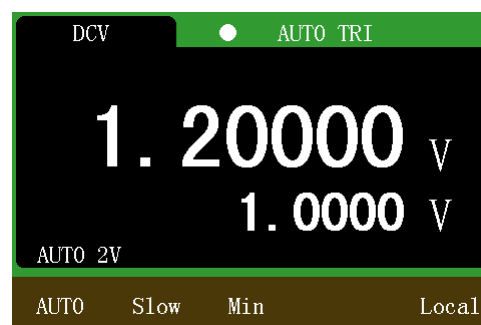

Figure 5-2 Minimum measurement interface
2. Press **MIN** to record the minimum value of the measurement, as shown in Figure 5-2. Press **MIN** again to exit the minimum measurement function.